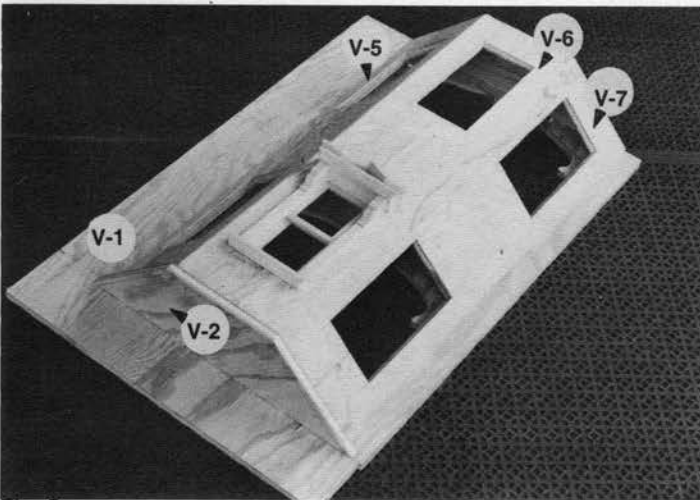

Fig. 2
STEP 2: Install parts V-5, V-6, and V-7, be sure they are not upside down. (FIGURE 2).